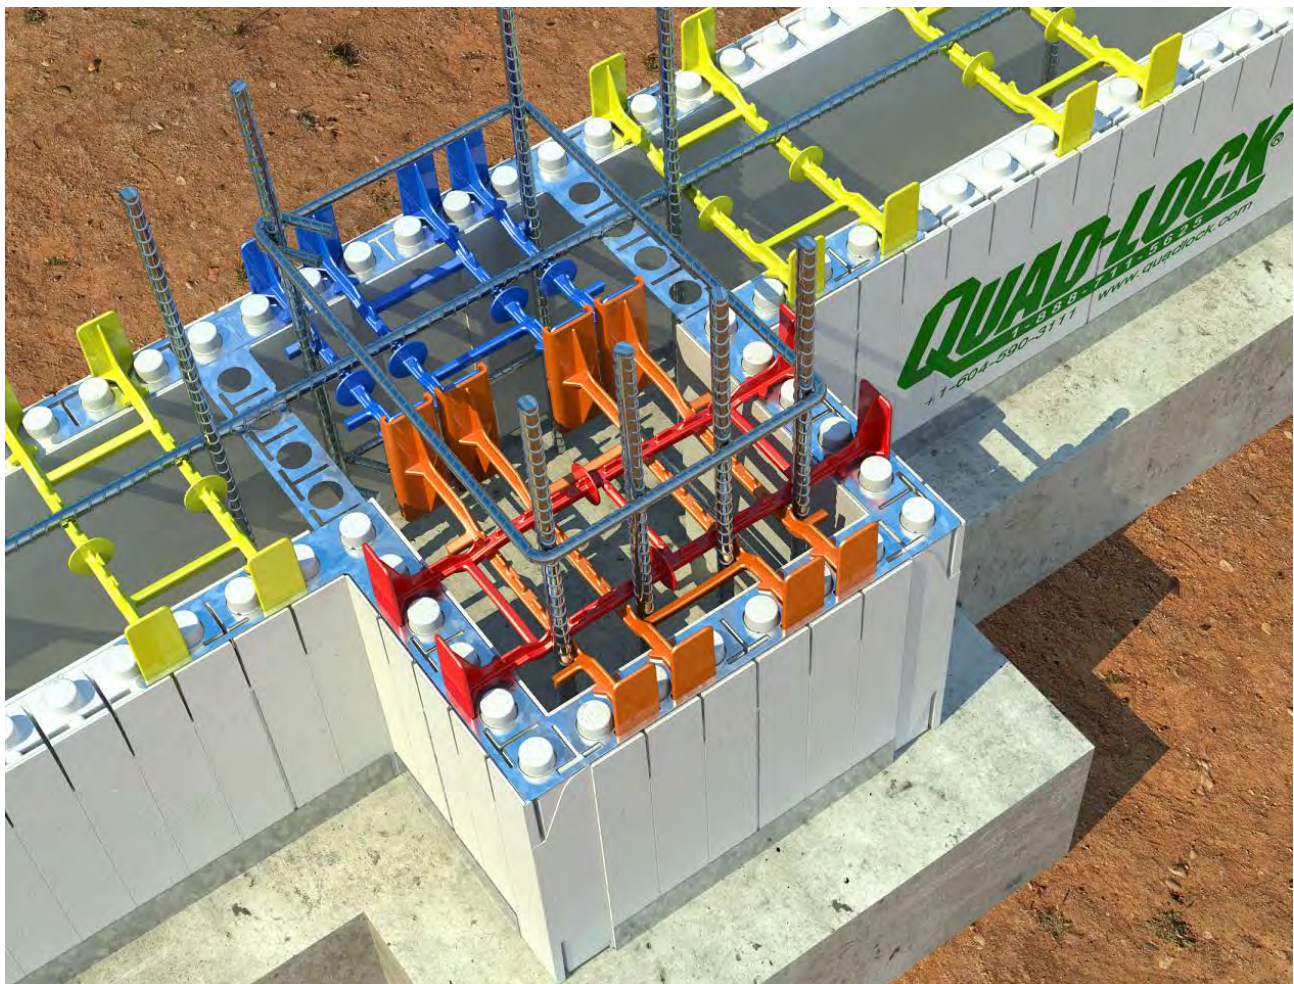

Figure 67: Pilaster Built with Quad-Lock Components
- Two "cross ties" (see Figure 67) should be placed over the top of transverse ties to support the sides of the pilaster.